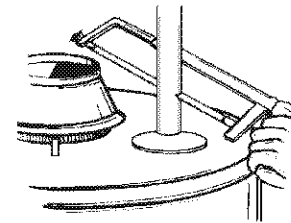

FIGURE 6.
- ⑤ Disconnect the vent pipe from the draft hood where it connects to the water heater. In most installations the vent pipe can be lifted off after any screw or other attached devices are removed. Dispose of the draft hood. The new water heater has a draft hood which must be used for proper operation.
- ⑥ If you have copper piping to the water heater, the two copper water pipes can be cut with a hacksaw approximately four inches away from where they connect to the water heater, see Figure 6. This will avoid cutting off pipes too short. Additional cuts can be made later if necessary. Disconnect the temperature-pressure relief valve drain line. When the water heater is drained, disconnect the hose from the drain valve. Close the drain valve. The water heater is now completely disconnected and ready to be removed.